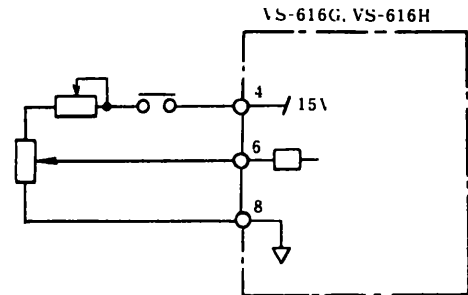

Fig. 6.5 Contact Signal to Terminal (4)
(1) Input the contact signal to the control power supply line at terminal (4) (Fig. 6.5).